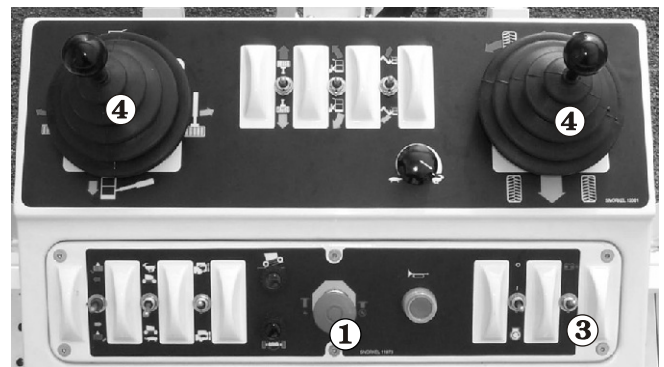

Figure 8.3—Platform Controls (Electric Controls)
1. Pull the emergency stop button^① out (refer to Figure 8.3 and 8.4).
3. Operate the emergency power switch³ (refer to Figure 8.3 and 8.4).
4. Operate the boom or platform joystick⁴ (refer to Figure 8.3 and 8.4).